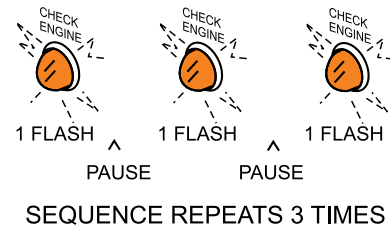

Figure 39. Leader Code
- Observe the check engine warning lamp flashing 3 consecutive times and repeating 3 times. This 1-1-1 sequence is defined as the leader code (Figure 39).